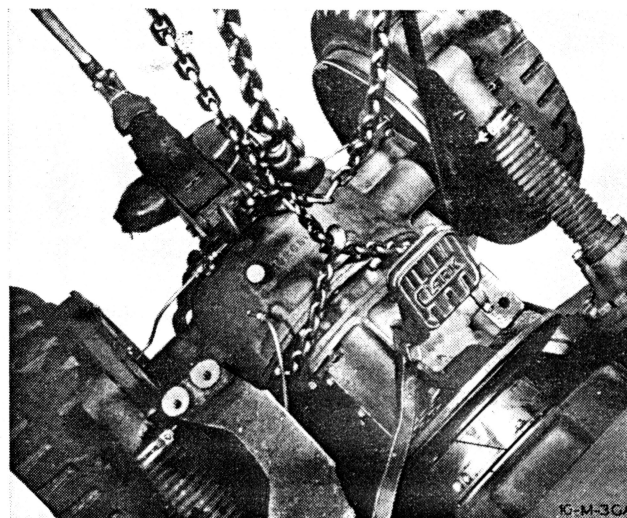

Fig. 11
5. Using a chain hoist, support weight of drive axle assembly. See Fig. 11.